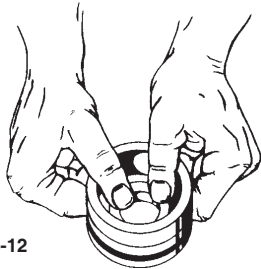

Figure 4-12
20. Install "O" ring or cup elastomer on the seal seat, (#12.5) lubricate the elastomer and carefully press the seat into the seal cups. (#2) (refer to figure 4-12) A clean soft material should be used between the seal face and pressing tools. The smoothest side of the seat should face up. Caution: Dirt and scratches can quickly ruin seals. Place an "O" ring (#6) into the groove around each seal cup.